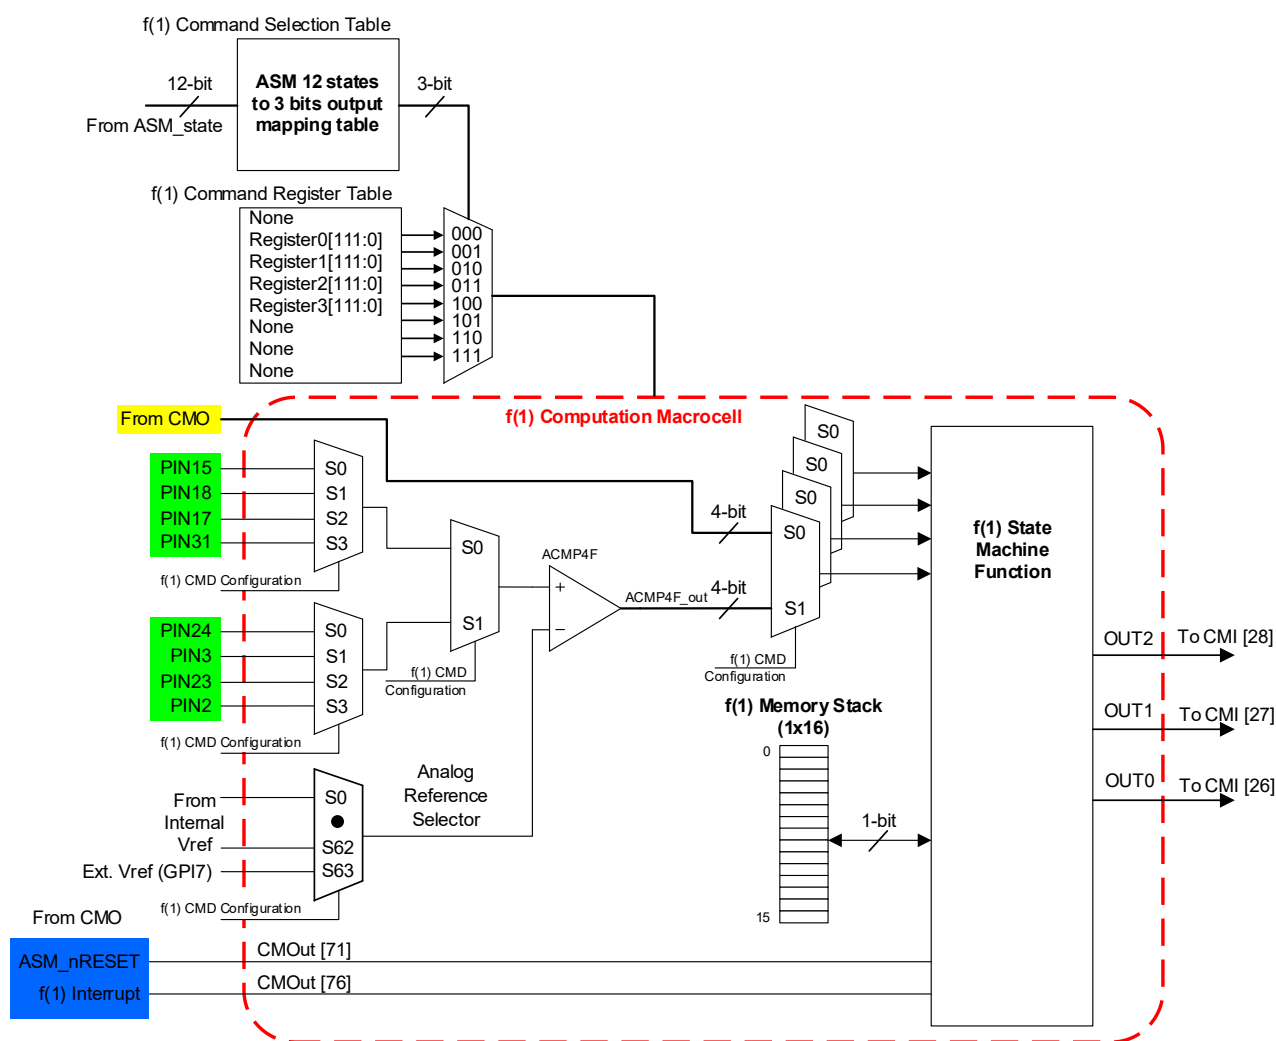

Figure 119. f(1) Computation Macrocell Input Signals
17.3 f(1) Computation Macrocell Input Signals
The f(1) Computation Macrocell has 6 digital input signals, `ASM_nReset`, `f1_Interrupt`, and four inputs from Connection Matrix outputs. An active signal on either of the first 2 inputs will immediately halt any command execution for the f(1) Computation Macrocell and will immediately relinquish control back to the ASM macrocell. The `ASM_nReset` is a level sensitive signal, and active LOW. The `f1_Interrupt` is a level sensitive signal, and active HIGH. These signals are shown in Figure 119, highlighted in blue. Also, there are 4 digital inputs from the Connection Matrix, which can be routed to any Connection Matrix outputs from the f(1) Commands. These signals are shown on Figure 119, highlighted in yellow.